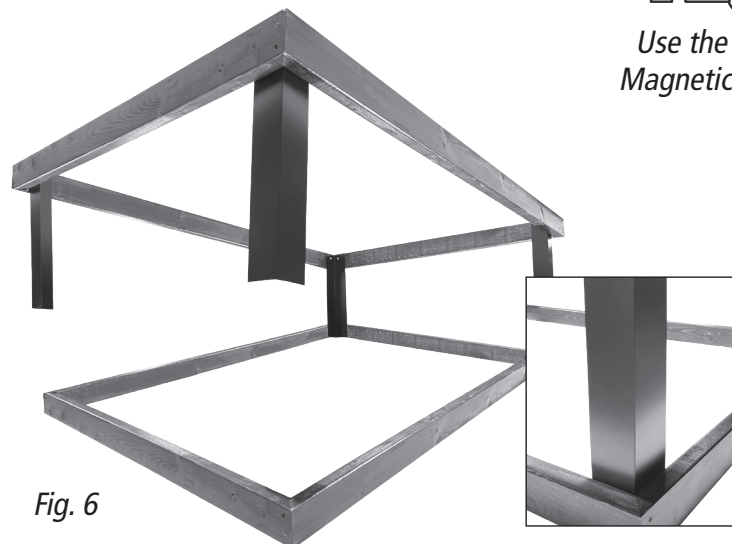

Fig. 6
Next, Gently pick up the completed frame with the four corner posts attached, flip it over and place it just inside the other frame from Step 2 (*See Fig. 6*) and fasten the (4) corner posts using 2 Roofing Screws per corner as shown in (*Fig. 5*).